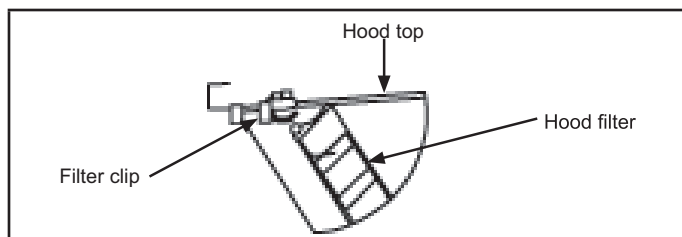

FIGURE 10
- 4 - Open the filter clips on the underneath side of the hood top and insert filter. See FIGURE 10.